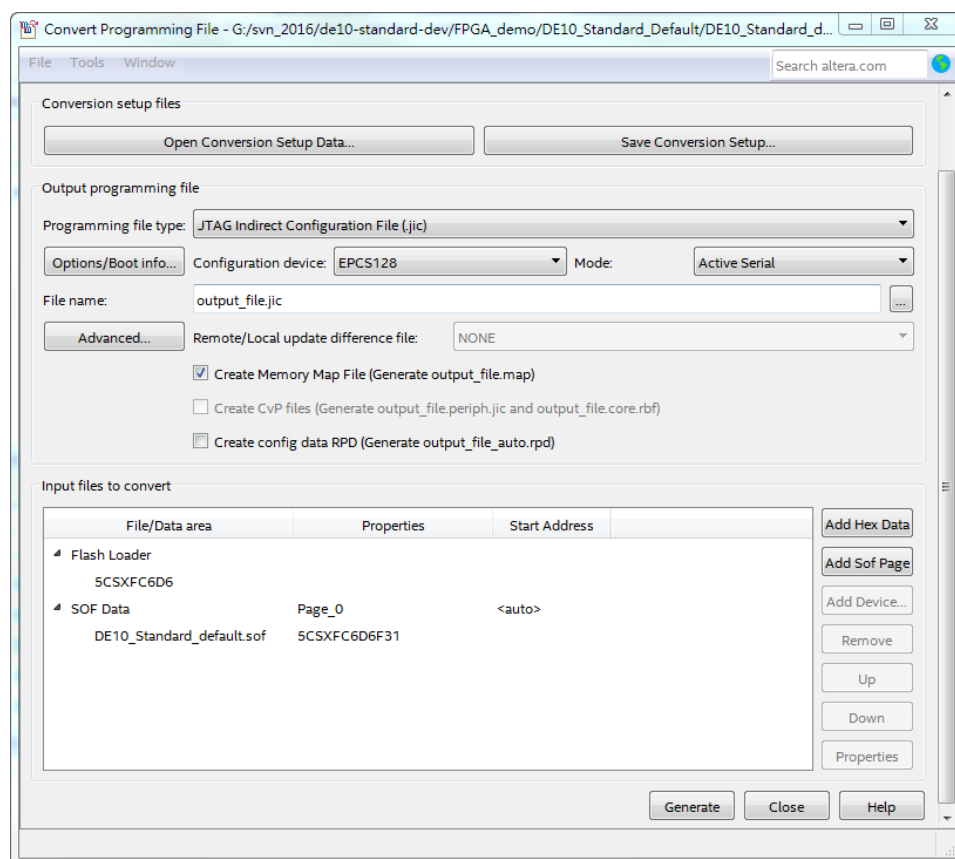

Figure 8-5 “Convert Programming Files” page after selecting the device
13. Click **OK** and the **Convert Programming Files** page will appear, as shown in Figure 8-5.